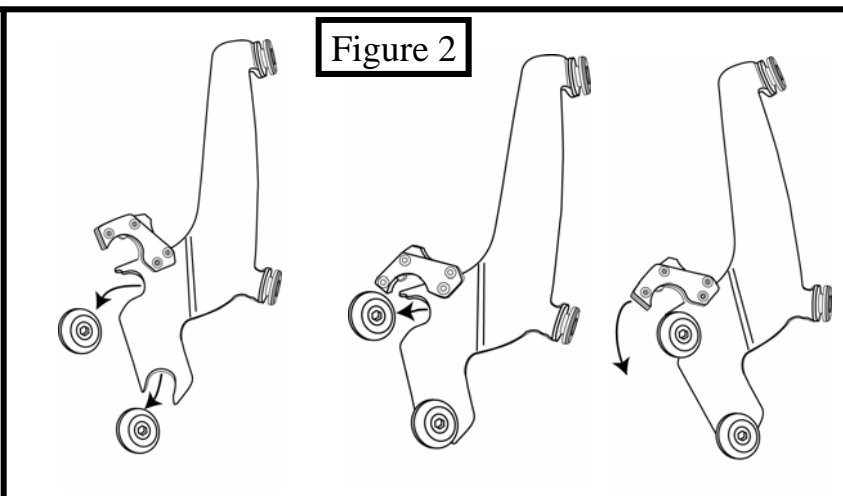

Figure 2
3. Install the windshield by placing the lower slots into the lower mounting bushings. Slip the upper slots into the upper mounting bushings and gently but firmly seat the slots into place. Lock the locking mechanism into place. (see figure 2 and 3)